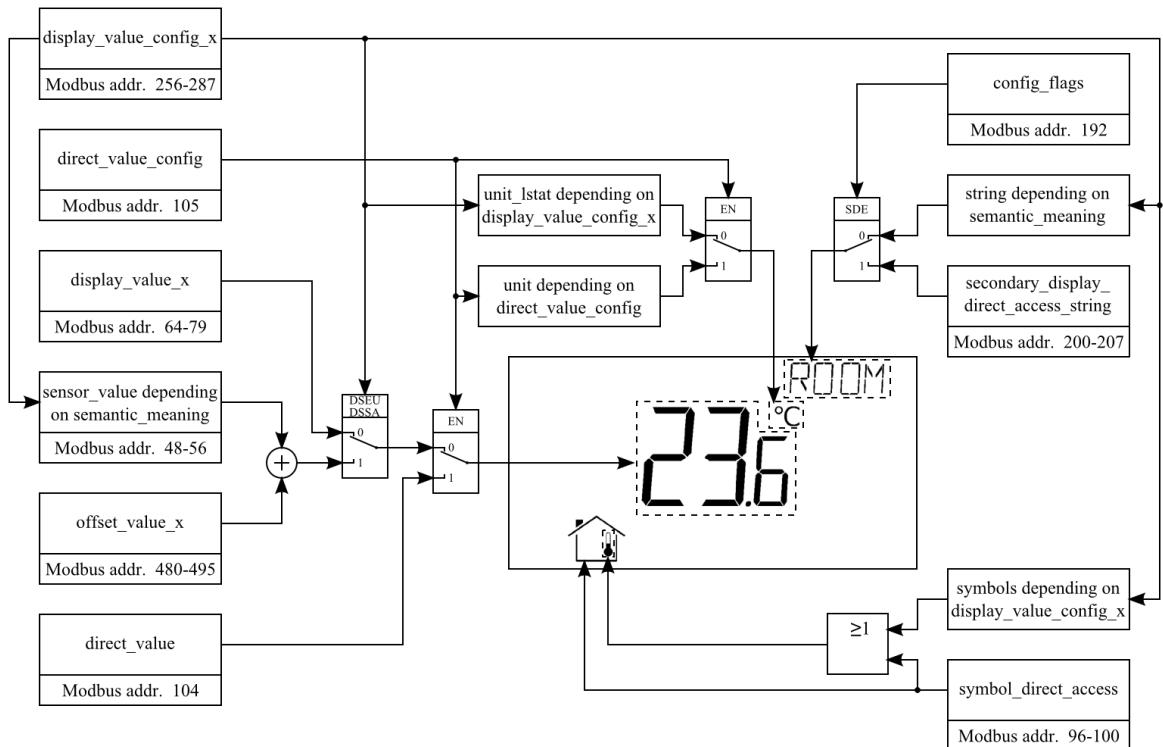

Figure 6: Modbus Register Usage for Value Display
The following Figure 6 shows, which Modbus registers have influence on a displayed value, unit, text on the secondary display or symbols. Depending on settings in configuration registers different combinations are possible to achieve the desired result.
<p>① A sensor value can be used as source for a display value. Therefore the DSSA or DSEU bit as well as the semantic meaning at the corresponding display value configuration at address 256 to 286 has to be set (see Table 28 on Page 39). If the DSSA or DSEU bit is set this specifies that a sensor value is used instead of a display value. The semantic meaning specifies which sensor value is used as source for displaying. For an overview on this topic please see Figure 6 on Page 21.</p> <p>① Sensor_value_0, sensor_value_1 and sensor_value_3 are 16 Bit signed values. All other sensor values are defined as 16 Bit unsigned since there are no negative values to expect. The values are scaled as described in Table 39 at Page 52.</p>
<p>① The DSSA or DSEU bit at the corresponding display value configuration at address 256 to 286 has to be cleared to display the content of a display value register (see Table 28 on Page 39). If the DSSA or DSEU bit is cleared this specifies that a display value is used instead of a sensor value. The semantic meaning specifies which text is displayed along with the specific display value. For an overview on this topic please see Figure 6 on Page 21.</p> <p>① All registers are 16 Bit signed values. Depending on the modbus_unit specified with the corresponding display value configuration register at address 256 to 287 (Table 28 at Page 39) the value needs to be scaled as described in Table 39 at Page 52 to achieve the desired result.</p>